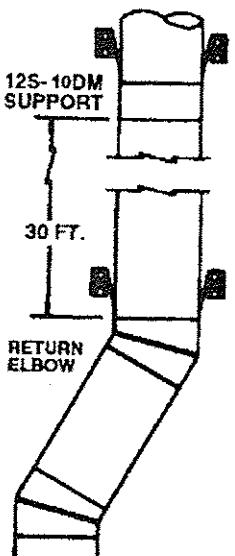

FIG 7
4. The remaining straight flue sections required to reach the building code approved height should be attached one at a time as they are lowered from the room to the secured elbow on the firebox. Once the whole flue is in position, attach the assembled straight flue sections to the top elbow, thereby completing all flue connections. **Make sure that both inner and outer pipe sections are locked; when installing double wall "snap lock" chimneys, it is important to ensure that the joint between the chimney sections is locked.** Check by pulling chimney upward after locking: the chimney will not pull apart if it is properly locked. Screws are not necessary to keep the chimney together. If chimney is 30' or higher, a support section (a 4-strap 12" length of pipe) is required after a straight chimney above the fireplace run, or above a return elbow after a straight chimney run. The support is designed to relieve the extra weight load on the fireplace and elbows when high chimneys are installed. See FIG 7.